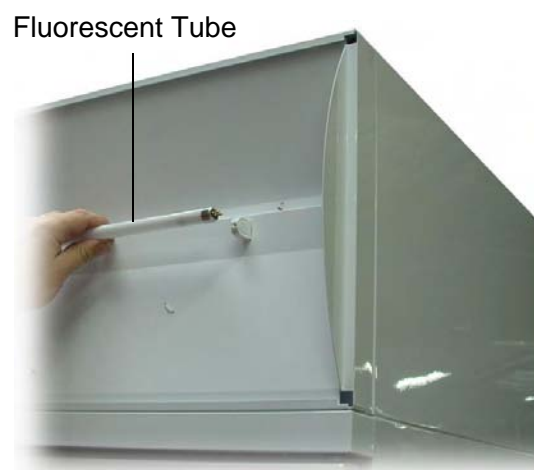

Figure 7:
3. The fluorescent tube can now be removed. Revolve the tube until the pin position allows withdrawal (see Figure 7 below).